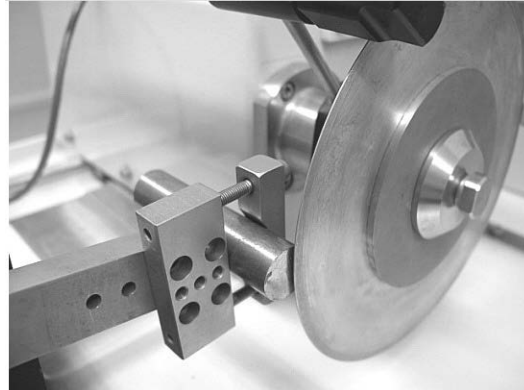

Figure 6 Blade behind the specimen
- b. Turn the hand crank counter-clockwise to bring the blade forward until it is just behind the and almost touching the specimen (see Figure 6).